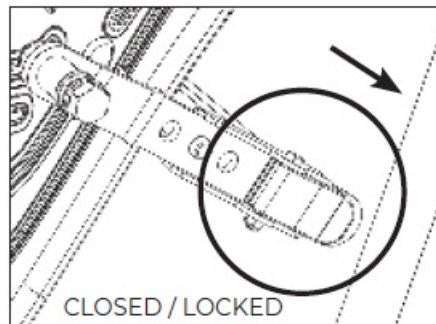

Figure 13
- Figure 13: Engage one of the holes in the Roller Hinge over the Bracket Pin. Push down on the Cam Lock to lock it and secure the Roller Hinge.